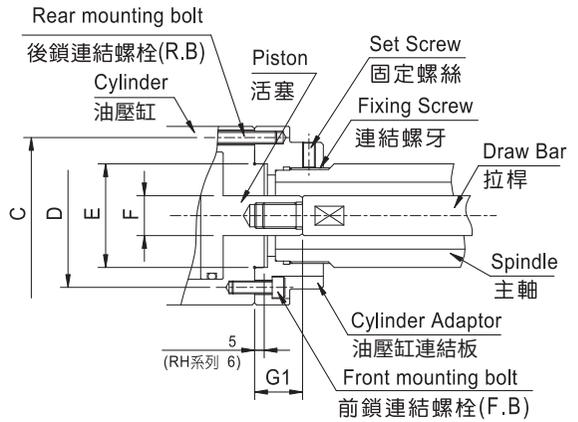

Fig.3 油壓缸連結板的安裝
- 確使油壓缸裝置儘量靠近車床主軸支撐處。(參照 Fig.3)
- Be sure cylinder near the spindle support of the lathe .(Refer to Fig.3)